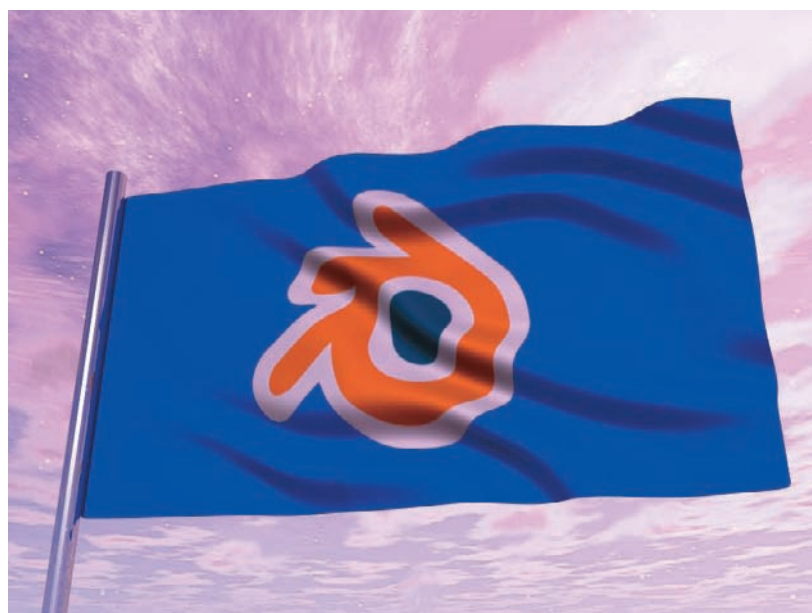

Figure 1.69 Flag with displacement texture
8. If you render a still now, it should look something like Figure 1.69. (As you can see, I've added a sky map for the background here, as discussed previously in this chapter.) Render a test animation to make sure that the level of displacement is right and the speed looks as you want it. If you need to adjust the speed of the flapping, adjust the LocX Ipo for the empty.